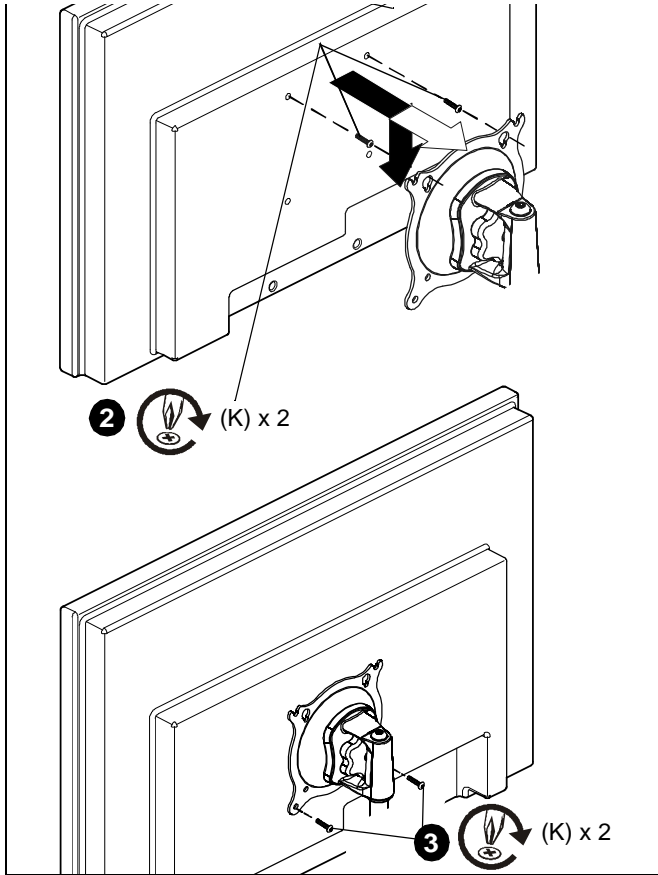

Figure 6
- Using Phillips screwdriver, carefully install two M4 x 12mm Phillips screws (K) into the *upper* mounting holes on the display. Thread screws completely into display, then back out 3 complete turns. (See Figure 6)
- Align two screws (K) (installed on the back of the display in the previous step) with the two top teardrop mounting holes on the Centris cup.
3. Using Phillips screwdriver, install two screws M4 x 12mm Phillips screws (K) through the *lower* mounting holes in Centris Turntite head into the display. (See Figure 6)
4. Tighten all four screws (K). Do not overtighten!